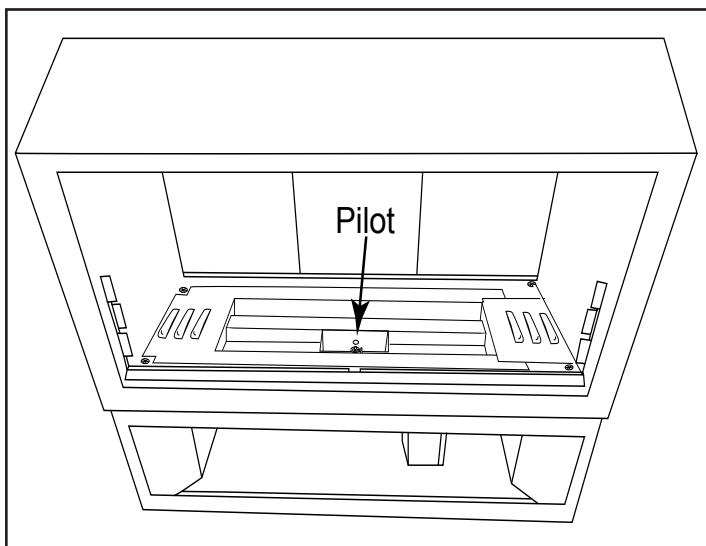

Figure 30 Shows burner pan installed into fireplace.
Step 20: Install the burner pan back into the fireplace. See Figure 30.